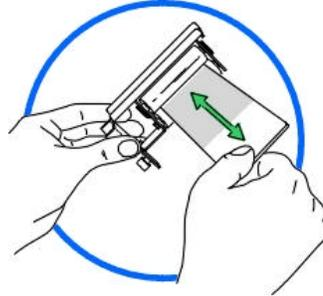

Figure 3-22
4. Clean the rollers with one of the adhesive-backed Cleaning Cards from the Printer Cleaning Kit. Remove the card's adhesive backing paper and slide the card between the rollers until all dust particles are removed. See Figure 3-22. Be sure to flip the Cleaning Card over to clean both the top and bottom Cleaning Rollers. Alternatively, placing the assembly under lukewarm water may clean the Cleaning Roller. Ensure that the Cleaning Roller Assembly is completely dry before reinstalling into the printer.